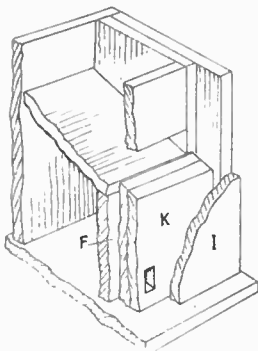
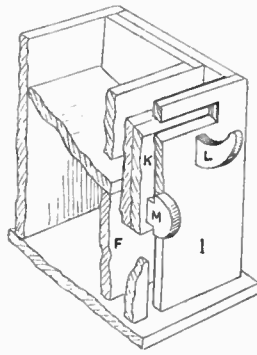

Fig. 3
Fig. 4
The action is again further demonstrated in the sectional diagrams Figs. 3 and 4, the former diagram shows the interior construction with sliding front (K) down, while in Fig. 4, the sliding front is in its raised position.